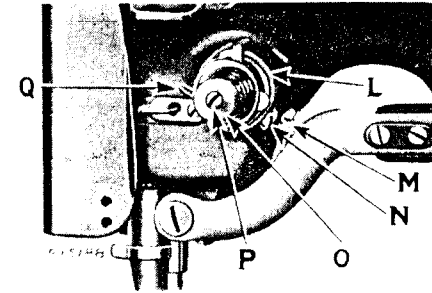

Fig. 18.
THE TENSION ON THE NEEDLE THREAD SHOULD ONLY BE REGULATED WHEN THE PRESSER FOOT IS DOWN. Having lowered the presser foot, turn the thumb nut (O, Fig. 18) at the front of the tension discs over to the right to increase the tension. To decrease the tension, turn the thumb nut (O) over to the left.
The function of the thread controller spring (Q, Fig. 18) is to hold back the slack of the upper thread until the eye of the needle nearly reaches the goods in its descent, as without this controlling action of the spring, the slack thread or silk (more especially silk) will sometimes be penetrated by the point of the needle as the needle is descending.
To increase the controller action on the thread, loosen the stop screw (N, Fig. 18) at the right of the tension and set the stop (L, Fig. 18) lower, or higher to decrease the action.